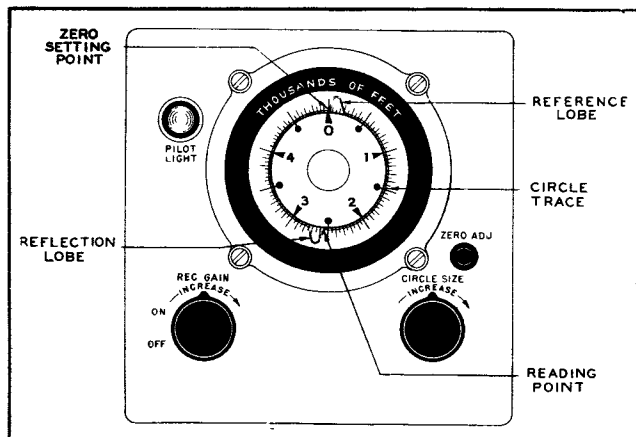

Figure 3-1. Dial and Controls for Indicators I-152-A and I-152-AM
(See figure 3-1 for location of controls.)
(See figures 3-1, 3-2, and 3-3.)
a. The black circular scale on the indicator is provided with a 0-to-5,000-foot altitude calibration. Calibration marks are provided for every 50 feet of altitude and are sufficiently widely spaced so that readings can be estimated to the nearest 25 feet. To read the position of any pulse, determine the point along the scale where the counterclockwise edge of the pulse intersects the luminous green circle, making sure that the gain control is set so that the pulse to be read is 1/4-inch high. For instance, on the indicator shown in figure 3-1, the reference pulse is at "0" and the reflected pulse at "2,550." Following take-off the reflection pulse travels clockwise around the scale as aircraft height above terrain increases. Until the aircraft reaches 5,000 feet, read height merely by noting the positions of the pulse. For instance, pulse positions such as those in figure 3-1 would indicate 2,550 feet.
b. When the aircraft reaches 5,000 feet, the reflected pulse will have progressed completely around the scale and returned to "0". As height above terrain increases further, up to 10,000 feet, the reflected pulse will travel clockwise on a second encirclement of the scale and 5,000 feet must be added to the indication of the pulses. For instance, pulse positions such as those in figure 3-1 would then indicate a height of 7,550 feet.